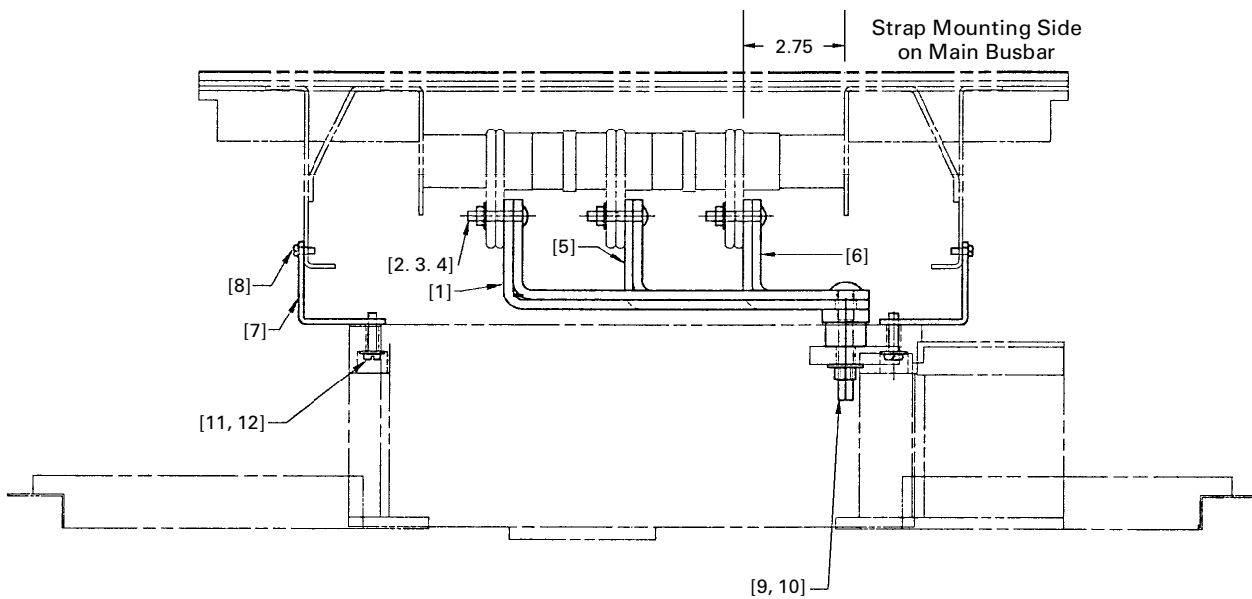

Figure 2. Mounting a K frame bolt-on circuit breaker, assembly end view.
- 2. Locate the side of the interior with a 2.75-inch reference distance.** The circuit breaker straps are mounted on the side of the panel interior bus at which the distance from the nearest vertical bus face to the inner face of the bus-support rail is 2.75 inches, as indicated in Figure 2.